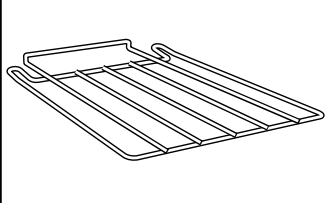

Fig.2-21
- 1 plate warming shelf (**Fig.2-21**)